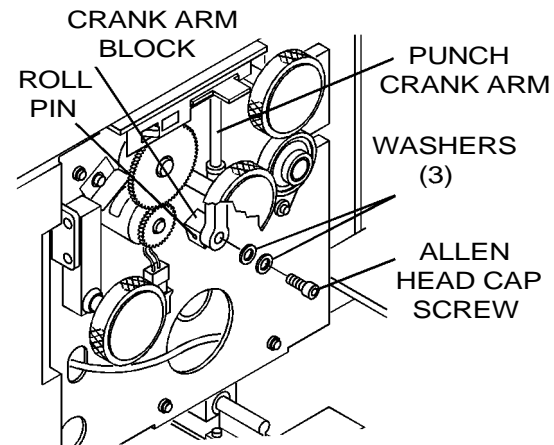

Figure 1.
- 4.1 the Allen Head Cap screw and 3 Washers on the Front Punch Crank Arm (Figure 1).
- 4.2 the Front Punch Crank Arm (Figure 1).
- Remove the Roll Pin in the Front Crank Arm Block (Figure 1).
- Remove the Front Crank Arm Block (Figure 1).